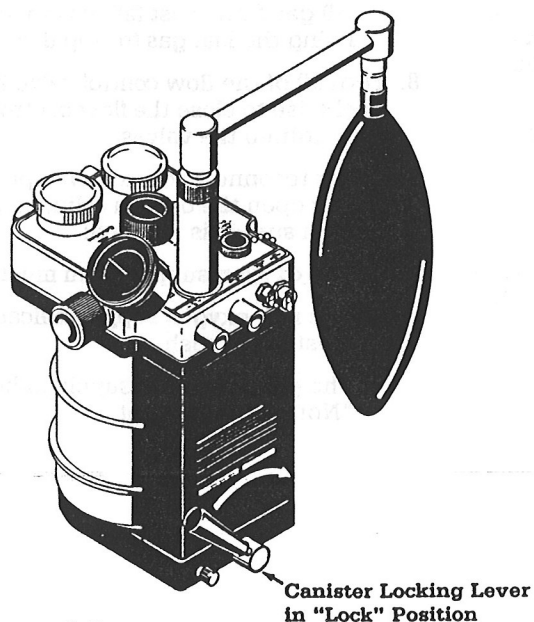

Figure 4-2
3. Verify that the canisters are properly seated and that the canister locking lever is in the "Lock" position. (See figure 4-2.)